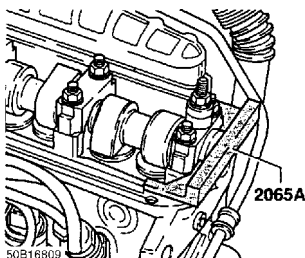

Fig. 3: Aligning Camshaft Locking Bar (2065A)
2) Use Locking Bar (2065A) to lock camshaft in position. Align bar by turning camshaft until one end of bar touches cylinder head. Measure gap at other end with feeler gauge. Insert feeler gauges of 1/2 thickness measured between bar and cylinder head at each end of bar. See Fig. 3.